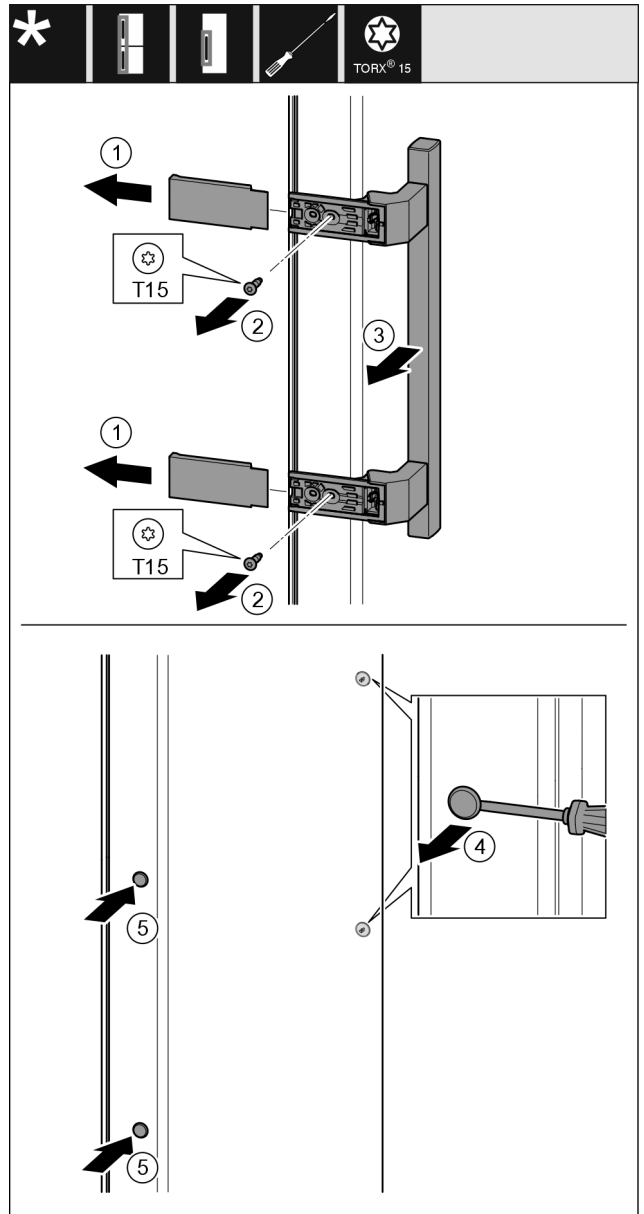

Fig. 18
- ▶ Remove the cover Fig. 18 (1).
- ▶ Unscrew screws Fig. 18 (2) with screwdriver.
- ▶ Remove the handle Fig. 18 (3).
- ▶ Use a slotted screwdriver to lift the side plug Fig. 18 (4) carefully and pull it out.
- ▶ Re-insert the plug Fig. 18 (5) on the other side.